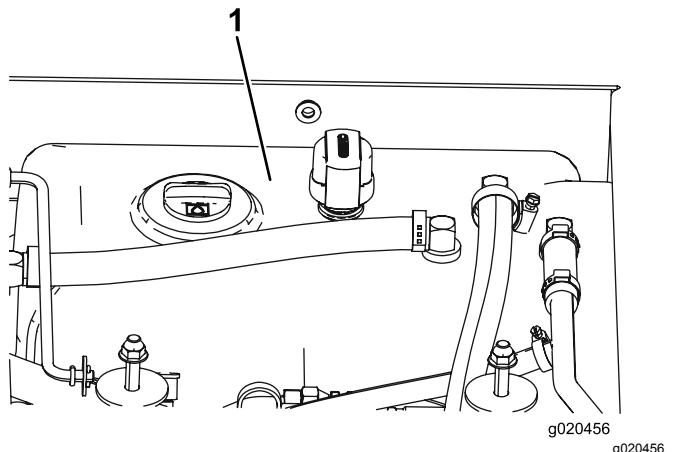

Figure 96
4. Fill the reservoir (Figure 96) with hydraulic fluid; refer to Checking the Hydraulic Fluid \(page 67\).